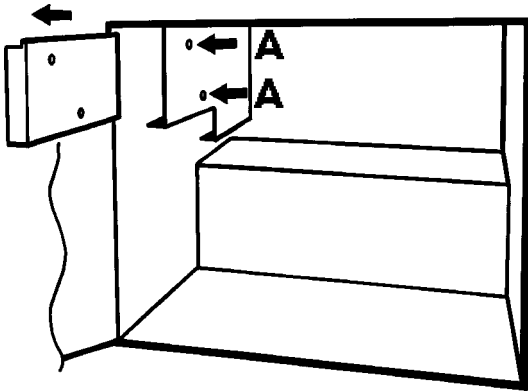

Figure 4.7.3c Strengthening member removal
5. Referring to figure 4.7.3c, remove the Safety earth link at the top left of the case and release the ribbon cable clamp to leave the earth lead and ribbon cable free.
6. Remove the strengthening member from the Memory card slot by undoing the securing screws ('A' in figure 4.7.3c).